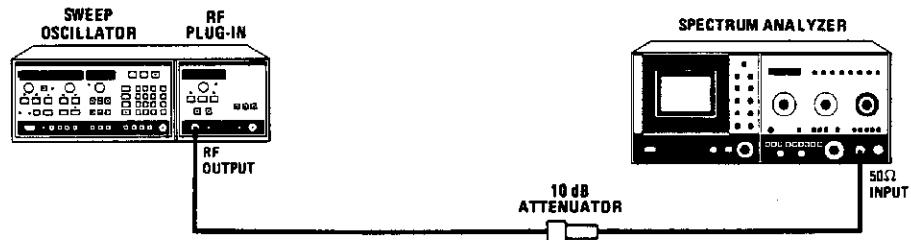

Figure 4-18. AM ON/OFF Ratio and Square Wave Symmetry Test Setup
1. Connect equipment as shown in Figure 4-18. Press Model 8350A/B [INSTR PRESET], [CW] [1] [GHz] and engage [ $\square$ ] MOD]. Set Model 83592C POWER LEVEL to +10 dBm.